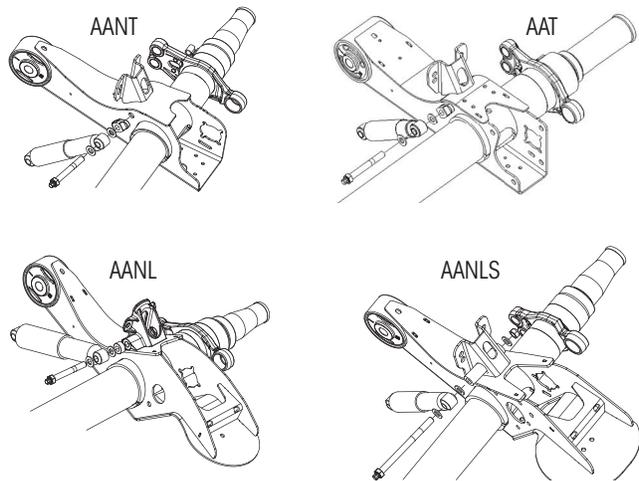

Figure 5: Sample lower shock mount hardware
12. **Remove** lower shock mounting hardware (Figure 5) to disconnect shocks from the beams.
4. **Raise** the HALFTRAAX assembly with the jack and **attach** shock absorbers to suspension beams using new mounting hardware (Figure 5).